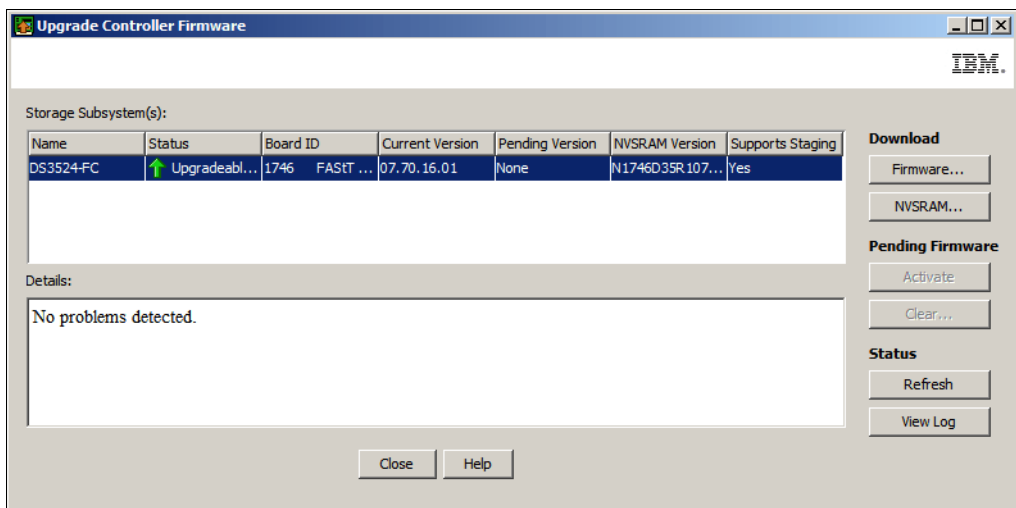
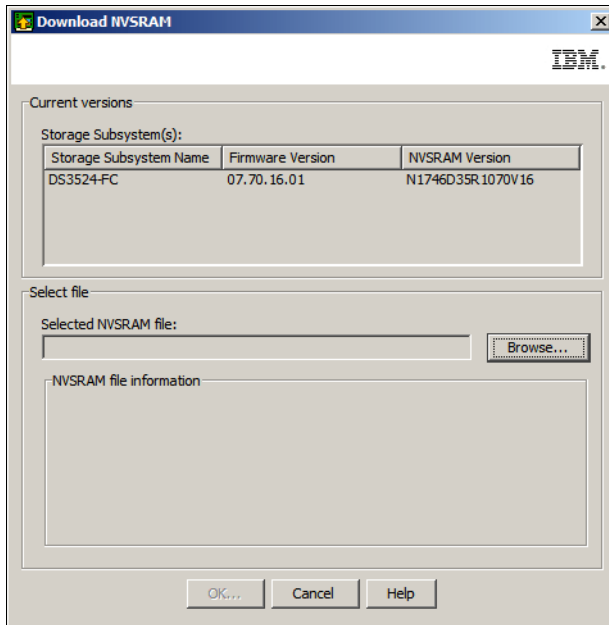

Figure 14-55 Status after pending firmware has been cleared
Figure 14-56 Download NVSRAM
- d. The **Upgrade Controller Firmware** window reports the status shown in Figure 14-55 after the firmware has been cleared.
- a. Click the **NVSRAM** button in Figure 14-55 on page 366. The **Download NVSRAM** window appears as shown in Figure 14-56.